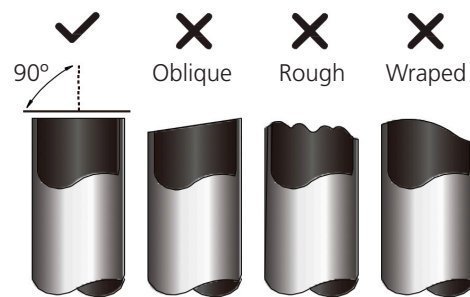

Fig 6.1
3. Make durre that the pipe is cut at a perfect 90° angle. Refer to **Fig. 6.1** for examples of bad cuts.